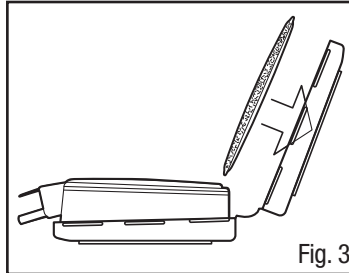
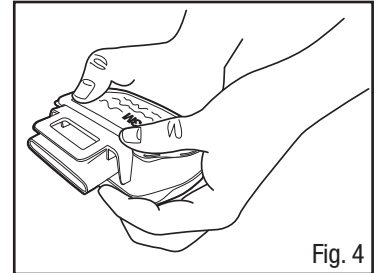

Fig. 3
Fig. 4
3. Orient a filter in the other half of the filter retainer so the shape of the filter aligns with the shape of the filter retainer and the printed side of the filter faces down (Fig. 3). Wrap the opposite end of the retainer around the cartridge and secure by pressing down on all four corners of the filter retainer (Fig. 4).